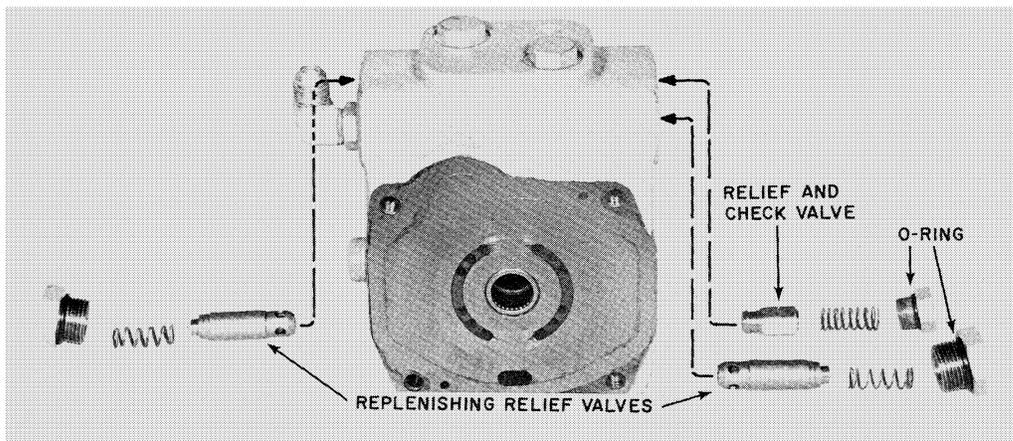

FIGURE 13
3. Place the valve plate on a clean surface. Take out the plugs on the right and left sides of the valve block as shown in Figure 13. The springs and cartridges will follow.